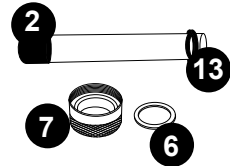

Figure 6
- Remove the quartz seal compression nut (7) by turning it
counterclockwise, Figure 3. Use a pair of channel-lock pliers if needed, Figure 5. You will notice that there is a stainless steel compression washer (6) that slides over the quartz tube. Save the washer (6) for later use, Figure 6. There is also a black seal ring (13), grasp the black seal ring; slowly and carefully remove the quartz tube.